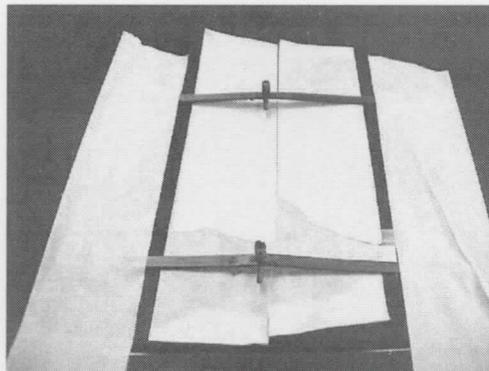

FIG. 6
6. REMOVE WING FROM CAR, LEAVING "T" STRIP DRILLING JIGS TAPED IN PLACE (SEE FIG. 6).
7. USING THE HOLES IN THE RAISED CENTERS OF DRILLING JIGS AS A GUIDE, DRILL FOUR (4) 3/32" HOLES INTO REAR DECK. **NOTE... ONLY DRILL THROUGH OUTER SKIN OF REAR DECK AT THIS TIME.** ONCE ALL FOUR (4) 3/32" HOLES ARE DRILLED, REMOVE THE DRILLING JIGS FROM REAR DECK.
9. KEEPING THE REAR DECK OPEN ABOUT 6" TO PROTECT INTERIOR, LOCATE THE FOUR (4) MOUNTING HOLES PREVIOUSLY DRILLED IN STEP 7. USING THESE HOLES AS A GUIDE, DRILL FOUR (4) 1/4" HOLES THROUGH THE OUTER SKIN OF REAR DECK AND INTO THE INNER SKIN.